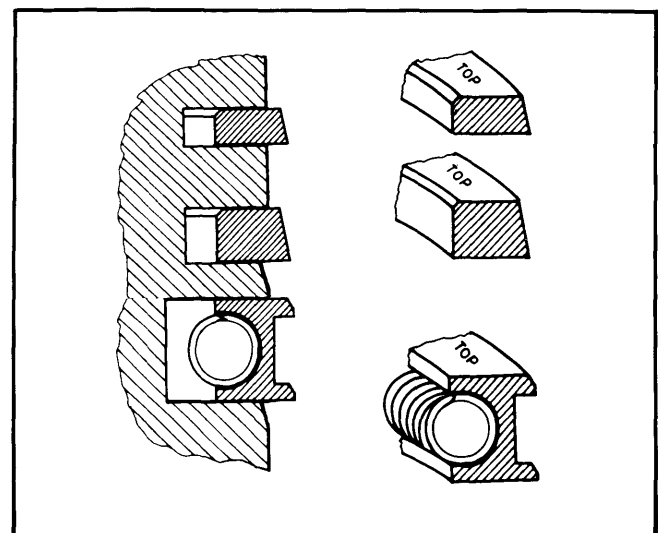

Fig. 9 Sectional View of Piston Ring Installation
3) Position piston rings in bottom of cylinder and measure ring gap. Check side clearance in piston ring grooves. Install rings on piston with marking "TOP" facing upward as shown in Fig. 9.